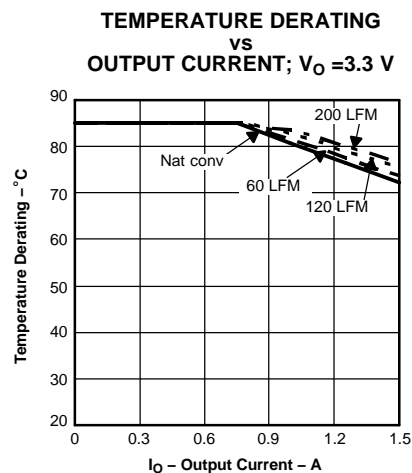
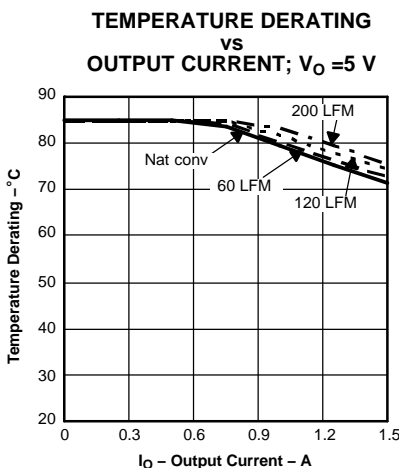
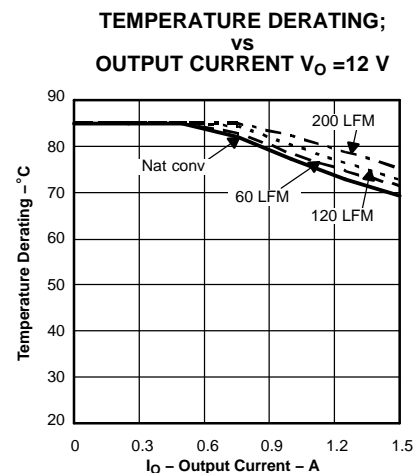

Figure 13.
Figure 14.
Figure 15.
- (6) The temperature derating curves represent the conditions at which internal components are at or below the manufacturer's maximum operating temperatures. Derating limits apply to modules soldered directly to a 100-mm x 100-mm, double-sided PCB with 2 oz. copper. Applies to Figure 13, Figure 14, and Figure 15.